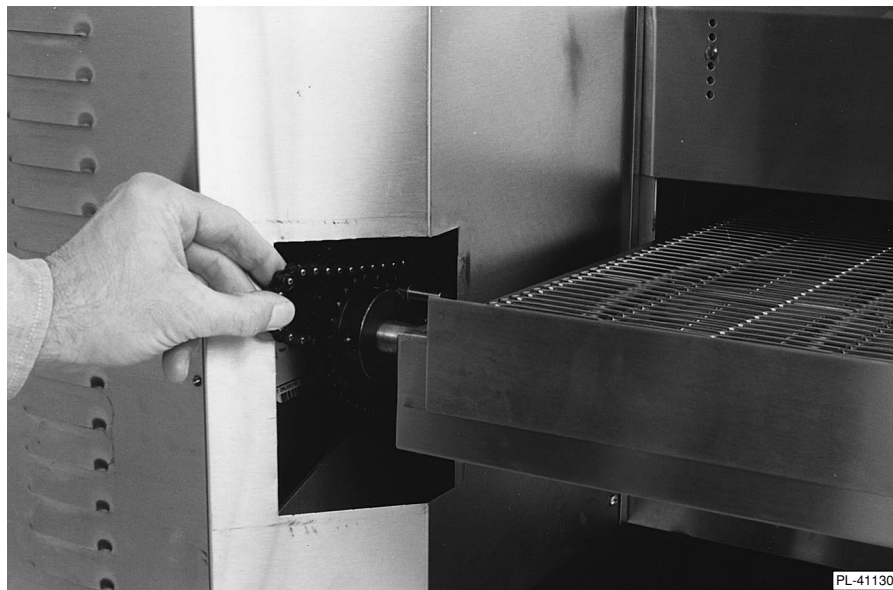

Fig. 6
- d. Slip drive chain off the conveyor drive sprocket (Fig. 6).